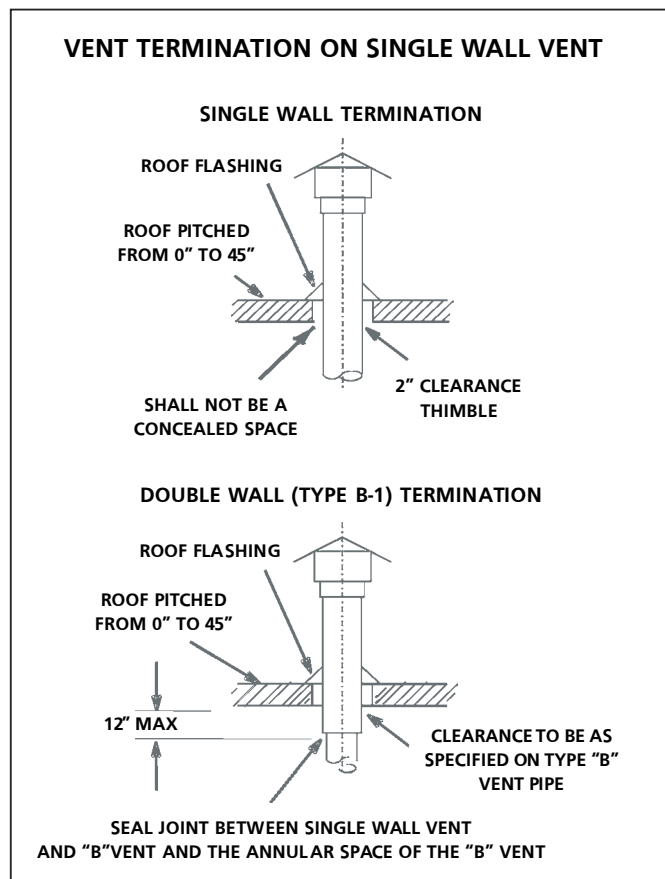

FIGURE 2
1. HSU unit heaters are to be used with NFPA- or ANSI-approved chimneys, U.L. listed type B-1 gas vents, single wall metal pipe, or listed chimney lining system for gas venting where applicable, as well as the modifications and limitations listed in **figure 2**. Seal single wall vent material according to the section **A - General Recommendations and Requirements**.
- When termination is routed through an exterior combustible wall the vent must be supported using a listed clearance thimble. Seal the connection between the single wall and double wall pipes and the annular space of the double wall pipe as shown in figure 2. Inside edge of vent termination tee must be at least 12 inches from outside wall as shown in figure 3.